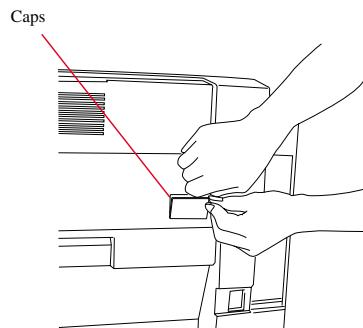

Fig. 3-36
2. Remove the two caps from the upper rear cover (see Fig. 3-36).